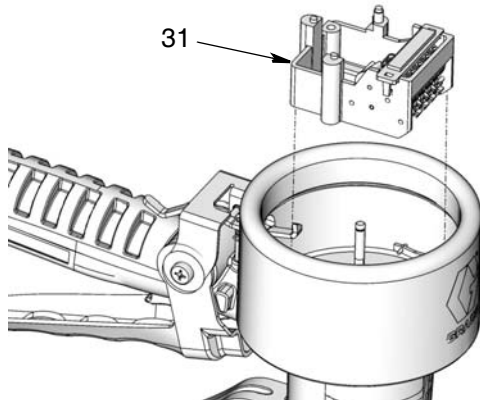

FIG. 31
1. Install counter assembly (31) (FIG. 31).